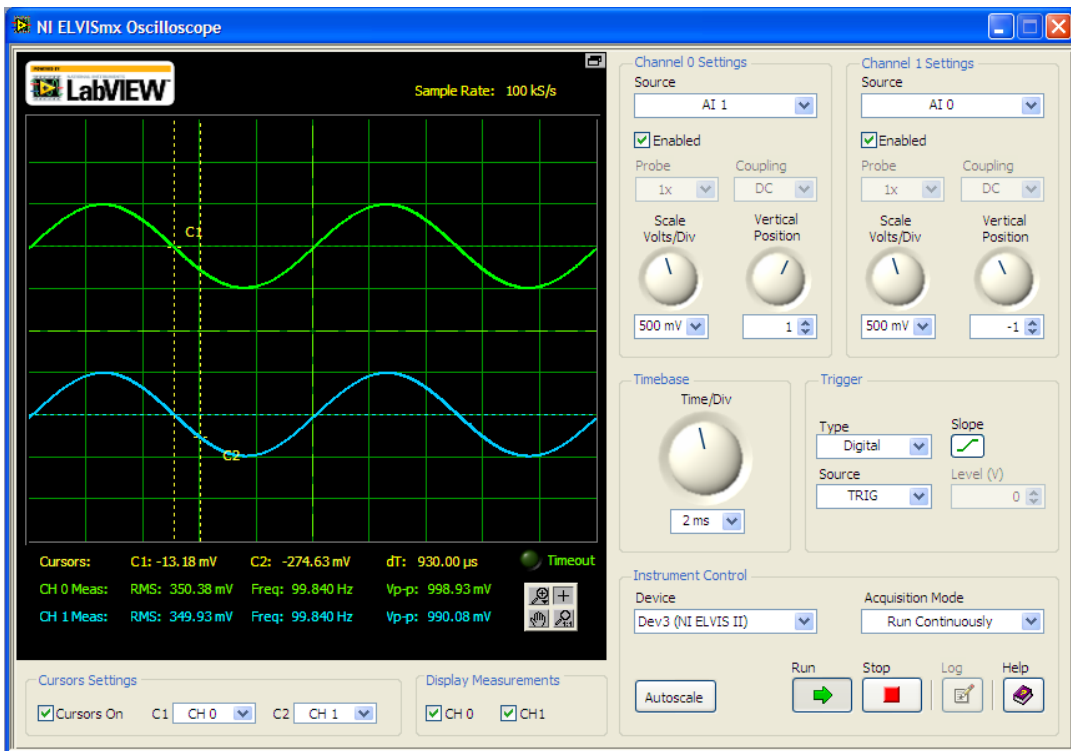

Fig. 16. NI Elvis Oscilloscope showing both input and output on two channels.
13. Cursors can also be used on the Oscilloscope SFP by clicking the Cursor button to ON. An example measurement using two cursors C1 and C2 to measure the phase shift is shown in Fig. 16.